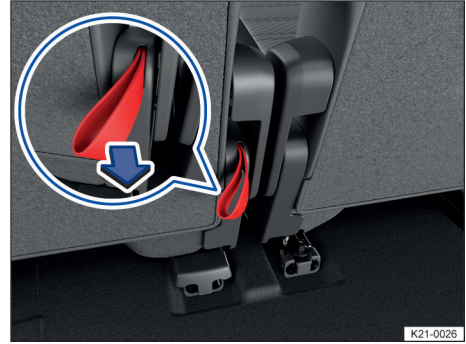

Fig. 5 Second row seats: loop for third row seat emergency exit function.
1. Pull the loop → fig. 5 back and fold the rear seat backrest forward.